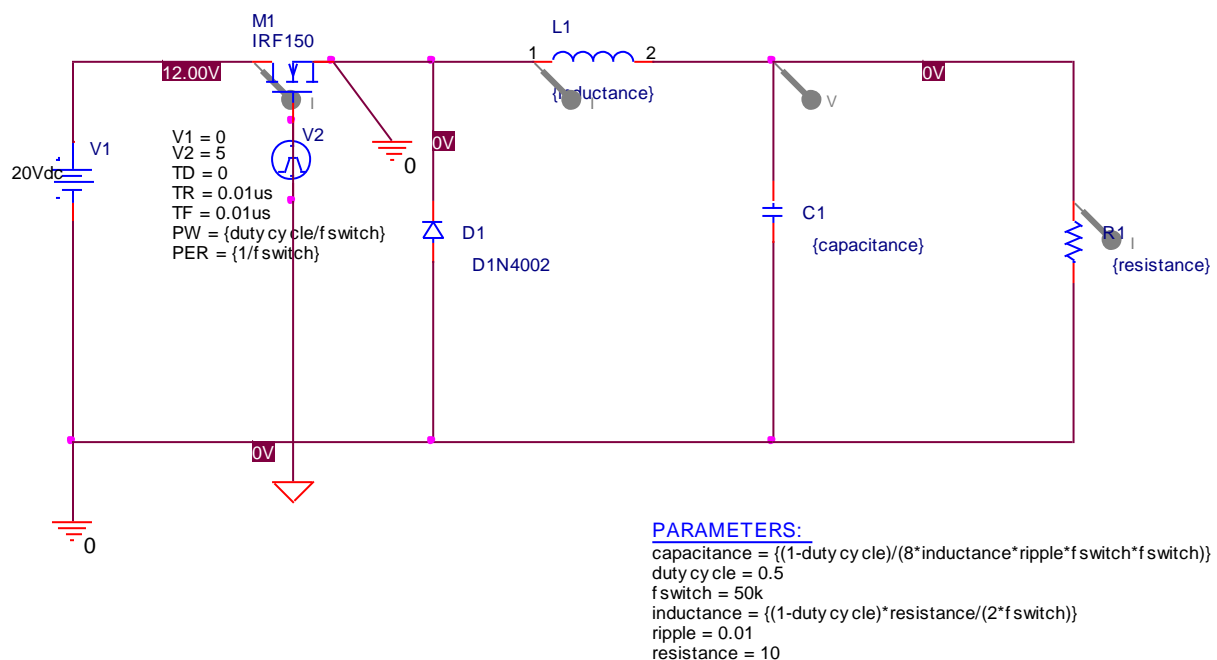

Figure 1(a). DC buck chopper
- a) For buck converter, make the circuit shown in figure 1 in PSpice using the following parts: